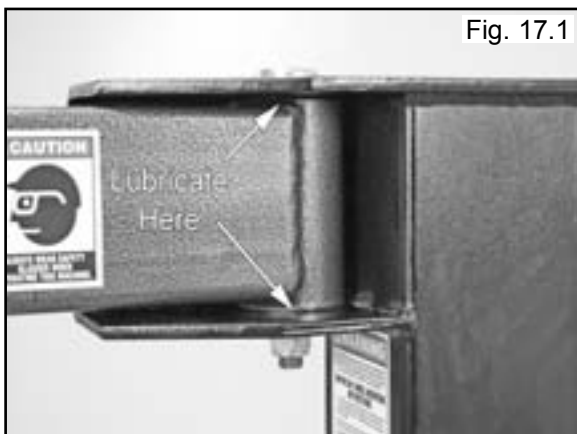

Fig. 17.1
- ◆ Lubricate the Swing Arm Pivot Pin. (See Fig. 17.1)